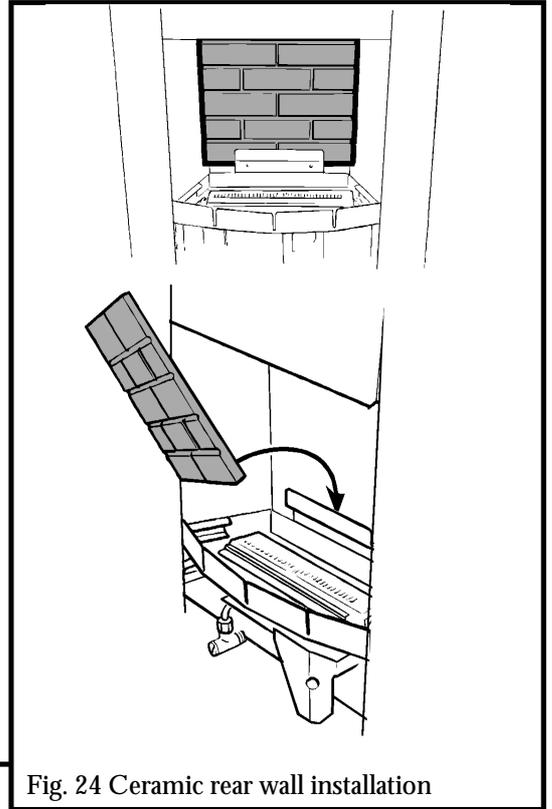

Fig. 24 Ceramic rear wall installation
10.1 With its feather edge at the top, place the ceramic rear wall into the channel at the back of the fire box.. Push the wall flat against the rear of the fire box. (See figure 24).